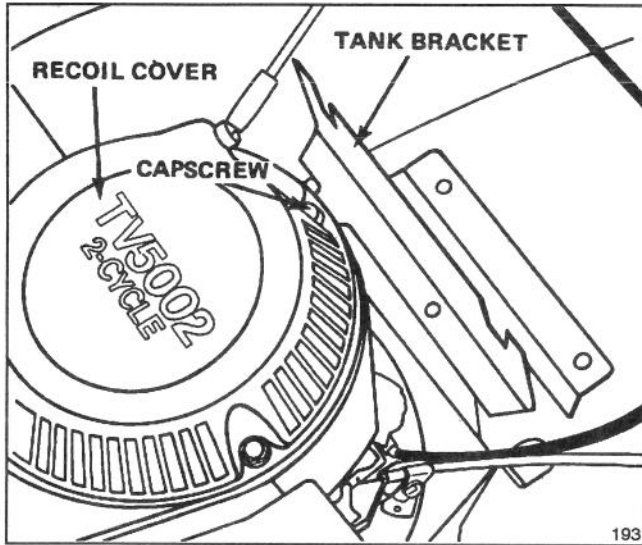

Figure 5
1. Remove back capscrew from recoil cover (Fig. 5). Slide tank bracket under edge of recoil cover, aligning holes in tank bracket and recoil cover (Fig. 5). Reinstall capscrew.